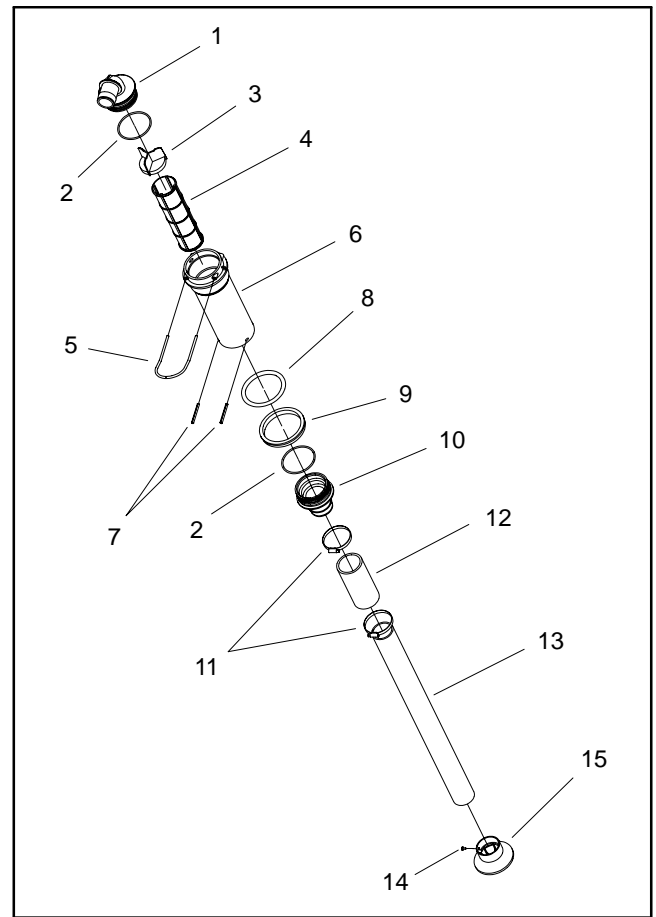
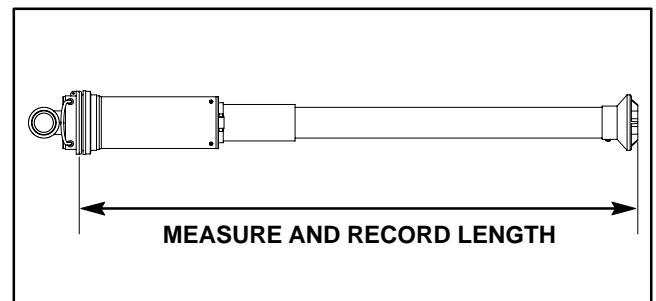

Figure 53
Figure 54
6. For assembly purposes, measure and record length of suction tube from filter housing flange to foot (Fig. 54).
7. Disassemble suction tube as needed using Figure 53 as a guide.
1. Assemble suction tube assembly using Figure 53 as a guide. Make sure that assembled length is the same as the length measured before disassembly (Fig. 54).